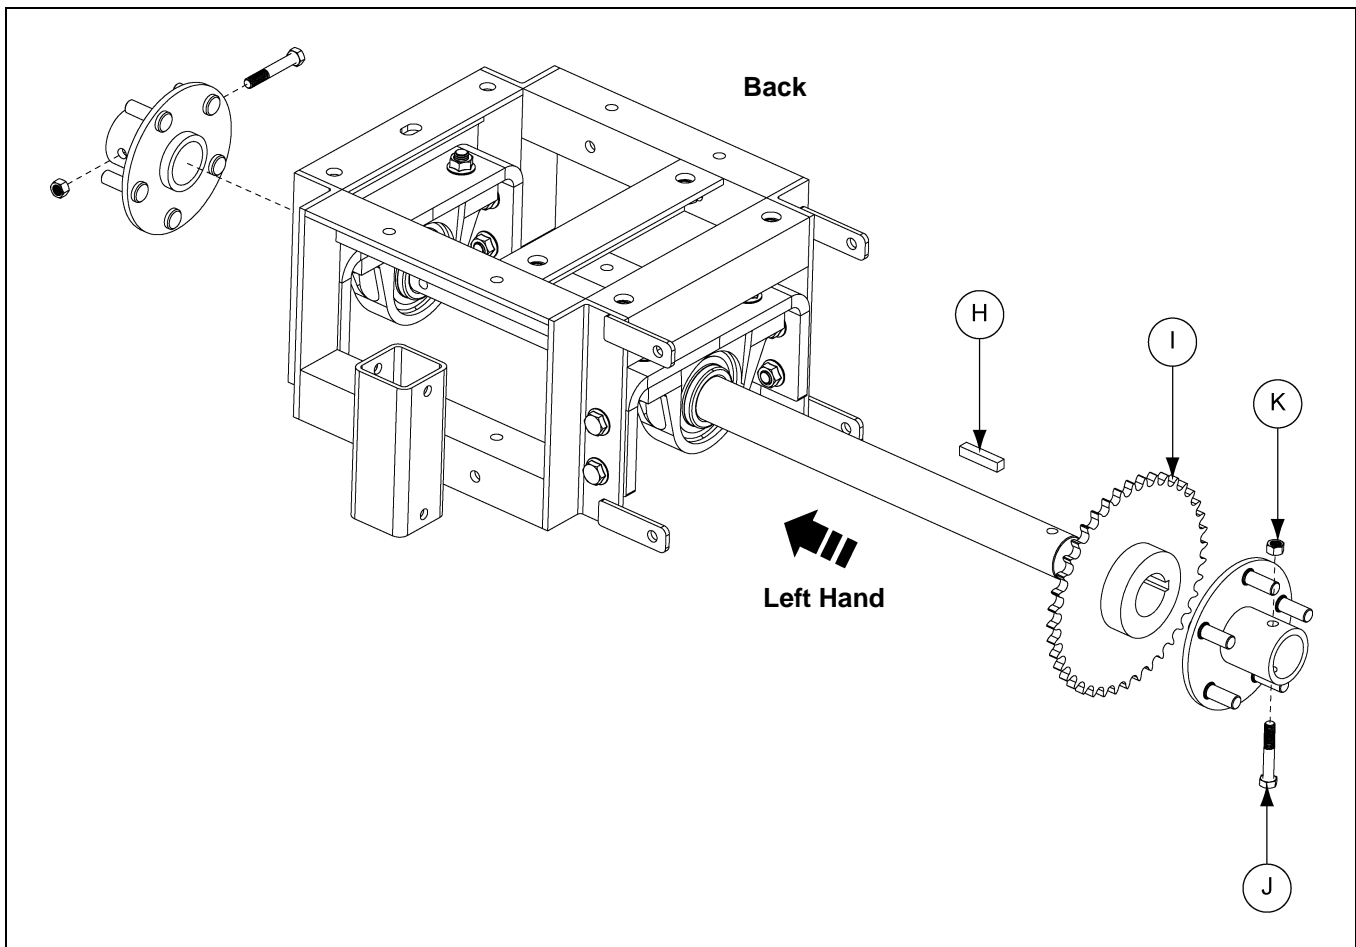

Figure 4B
- Assemble the 40 tooth sprocket (I) to the tractor axle using a 3/8" square x 1-3/4" key (H). Temporarily tighten the sprocket to the key and the shaft. Final adjustment of the sprocket placement will occur after the chain is installed.
- Mount the wheel hubs to the tractor axle using 3/8"-16 x 2-1/2" hex head cap screws (J) and stover lock nuts (K). (See Figure 4B.)